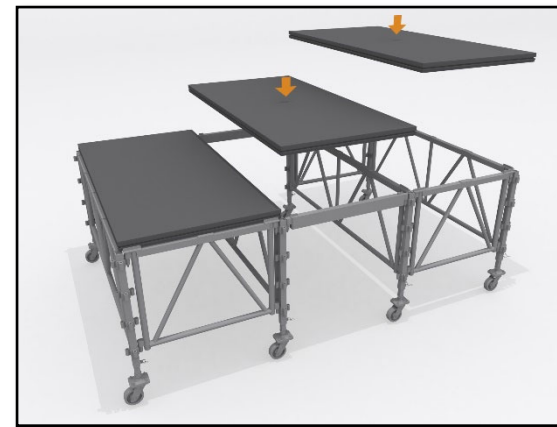

Fig. 26 – Fitting Decks to bays 2 & 3
9.1.7.4 Carefully fit the deck into the 2nd bay. This bay should be made up of 2 off 8' gates and 2 off 4' beams. *Fig. 26 – Fitting Decks to bays 2 & 3*
9.1.7.6 Carefully fit the deck into the 3rd bay. This bay should be made up of 2 off 8' gates and 2 off 4' Gates. *Fig. 26 – Fitting Decks to bays 2 & 3*